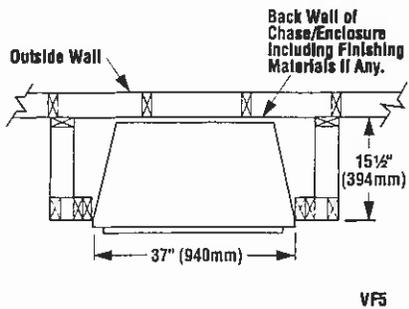
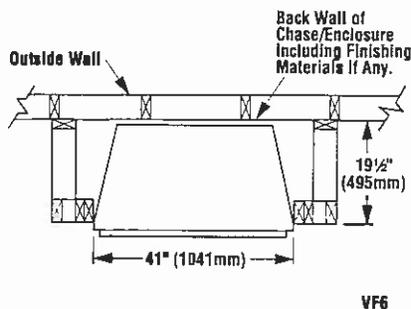

Figure 4
Figure 7
Step 1. Frame VF5 appliance enclosures as illustrated in Figures 4, 5 and 6. Frame VF6 appliance enclosures as illustrated in Figures 7, 8 and 9 for surround installations proceed to Step 8.
Note: Framing dimensions in Figures 4 - 9 are calculated for a nailing flange depth of 1/2" (13 mm).